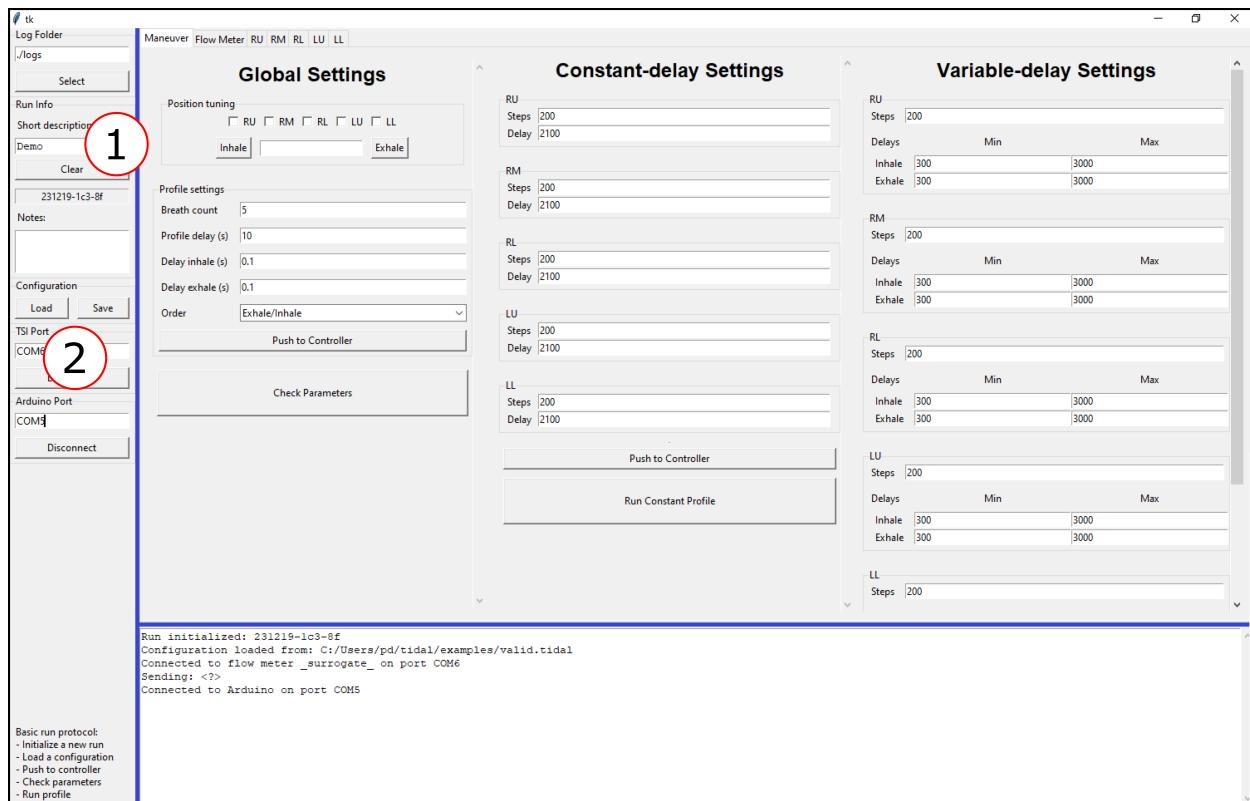

Figure 11: Setting up a run.
1. Enter a brief description of the run to follow, including any notes (**Figure 11**).
2. Load a configuration, if available, or set the breathing parameters manually (**Figure 11**).